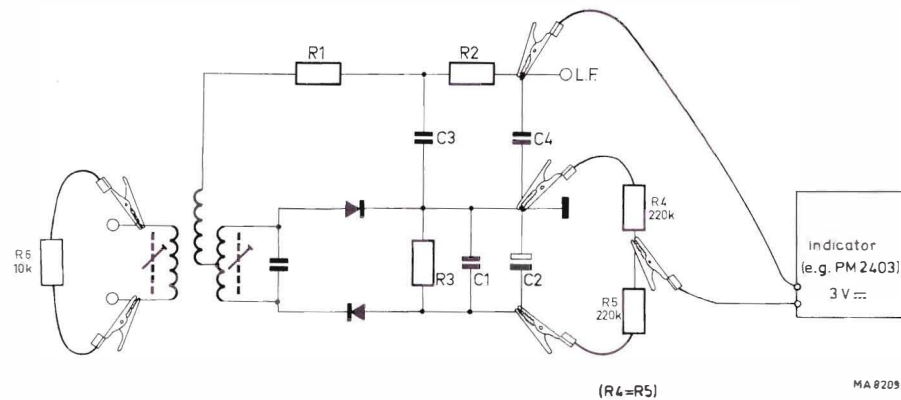

Fig. 12. Checking and adjusting the band-pass curve of the ratio detector of an f.m. receiver
- Terminate the primary circuit of the ratio detector with a resistor of approx. 10 k Ω (R6, Fig. 12). Adjust the core of the secondary circuit to minimum deflection of the indicator, which is connected according to Fig. 12. Repeat the adjustment.